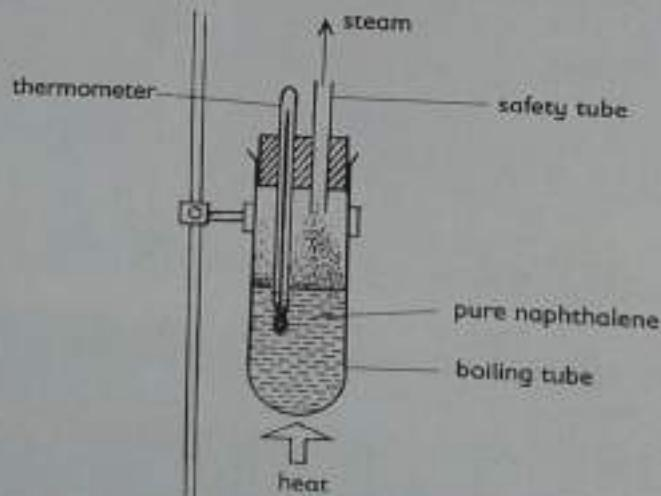

Fig 1.5: Apparatus for measuring the melting of naphthalene
2. Using a rubber bung, attach the thermometer to the melting-point tube and place them in a water bath as shown in Fig. 1.5. Ensure both the rubber bung and the open end of the tube are well clear of the water surface level.